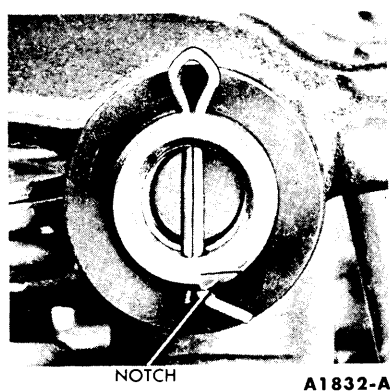

FIG. 15—Typical Installation Identification Mark—Rocker Arm Shaft Assembly
4. Position the baffle plate and the valve rocker arm shaft assembly(ies) on the cylinder head(s) with the valve push rods in place and the rocker shaft support bolts finger-tight. **Be sure the shaft is positioned so that the oil holes are to the bottom.** Also, the identification notch (Fig. 15) must be downward and toward the front on the right bank, or toward the rear on the left bank.
When properly assembled, the identification notch (Fig. 15) on the right rocker shaft assembly must be facing downward and toward the front of the engine. On the left rocker shaft assembly, the notch is downward and toward the rear. Complete the assembly by installing the remaining flat washer and spring washer and install the cotter pin.